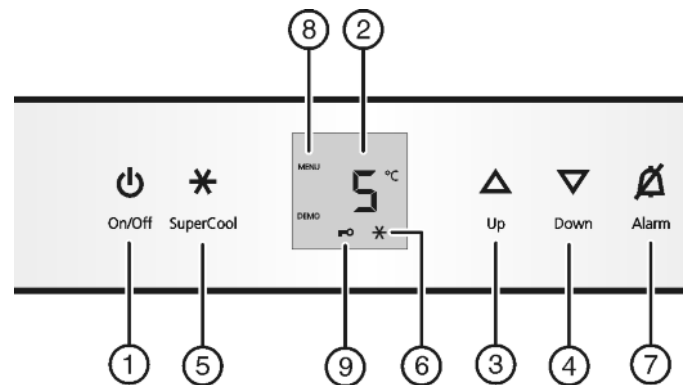

Fig. 2
- ▶ Press On/Off button Fig. 2 (1).
- ▶ Activate setting mode: Press the SuperCool button *Fig. 2 (5)* for around 5 seconds.
- ▶ Briefly press the SuperCool button *Fig. 2 (5)* to confirm. When **cl** is indicated in the display:
- ▶ to activate the child lock, briefly press the SuperCool button *Fig. 2 (5)*.
- ▷ The child lock symbol *Fig. 2 (9)* shines. **c** flashes in the display. When **cl** is indicated in the display:
- ▶ to deactivate the child lock, briefly press the SuperCool button *Fig. 2 (5)*.
- ▷ The child lock symbol *Fig. 2 (9)* goes out. **c** flashes in the display.
- ▶ To deactivate the set-up mode: press On/Off button *Fig. 2 (1)*.
- ▶ Press alarm button *Fig. 2 (7)*.
- ▶ For a higher temperature setting: press Up button *Fig. 2 (3)*.
- ▶ For a lower temperature setting: press Down button *Fig. 2 (4)*.
- ▶ Briefly press SuperCool button *Fig. 2 (5)*.
- ▷ The SuperCool symbol *Fig. 2 (6)* lights up in the display.
- ▷ The SuperCool symbol *Fig. 2 (6)* goes out in the display.